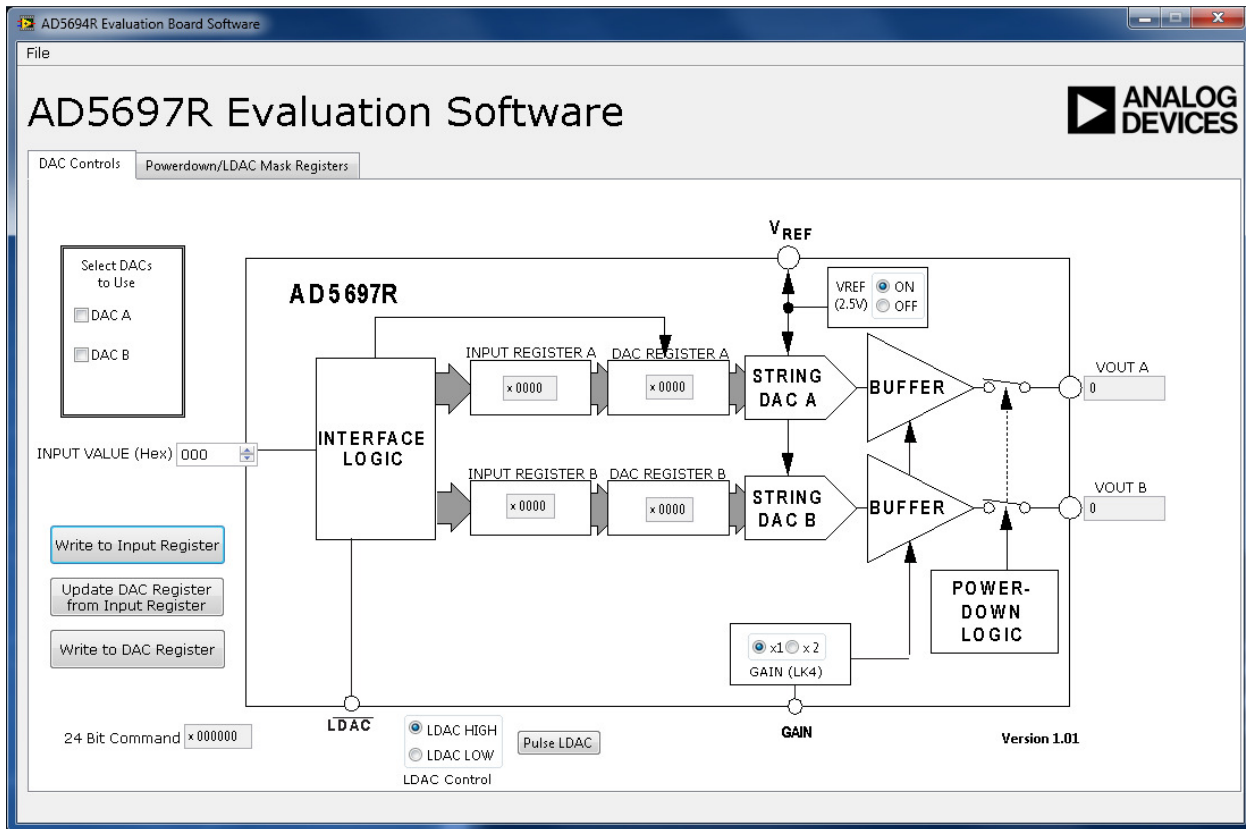

Figure 5. AD5697R Evaluation Board Main Window
5. The main window of the AD5696R evaluation software then opens, as shown in Figure 5.
The AD5696R/AD5694R main window opens, as shown in Figure 5. The data programmed into the 24 bit input shift register is displayed. You can select the different write commands by clicking on the buttons.